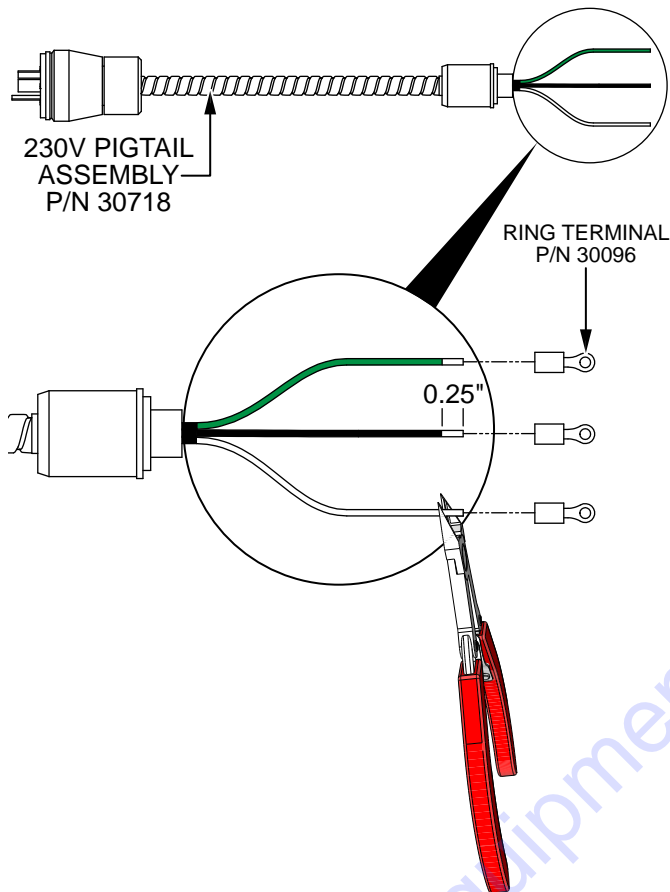

Figure 5. Install Ring Terminals
- Locate the 230V pigtail assembly (P/N 30718). Strip the insulation back 1/4" from the end of each of the three pigtail assembly wires (Figure 5).
- Place a ring terminal (P/N 30096) onto the end of each of the three pigtail assembly wires and crimp. See Figure 5.